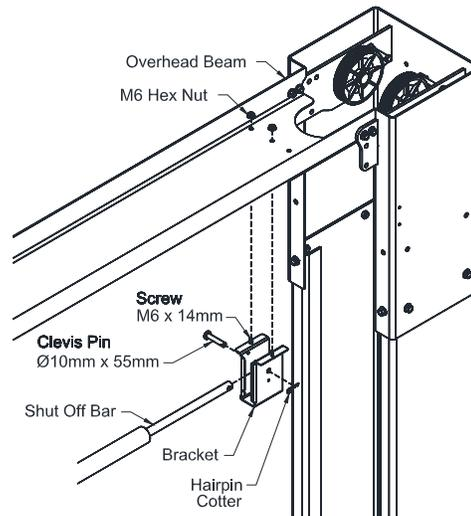

Fig. 7b – Overhead Bracket Idler Side
- 20) Install the Idler Bracket to the Overhead Beam using the rear set of holes on the Idler Side of the lift. Fig. 7b. Note the orientation of the Idler Bracket. The narrow slot needs to be facing towards the Power Column. Slide the Shutoff Bar over the limit switch on the Power Side. Pin the Shutoff Bar to the Idler Side Bracket with the 10mm dia. x 55mm Lg. clevis pin & hairpin cotter.